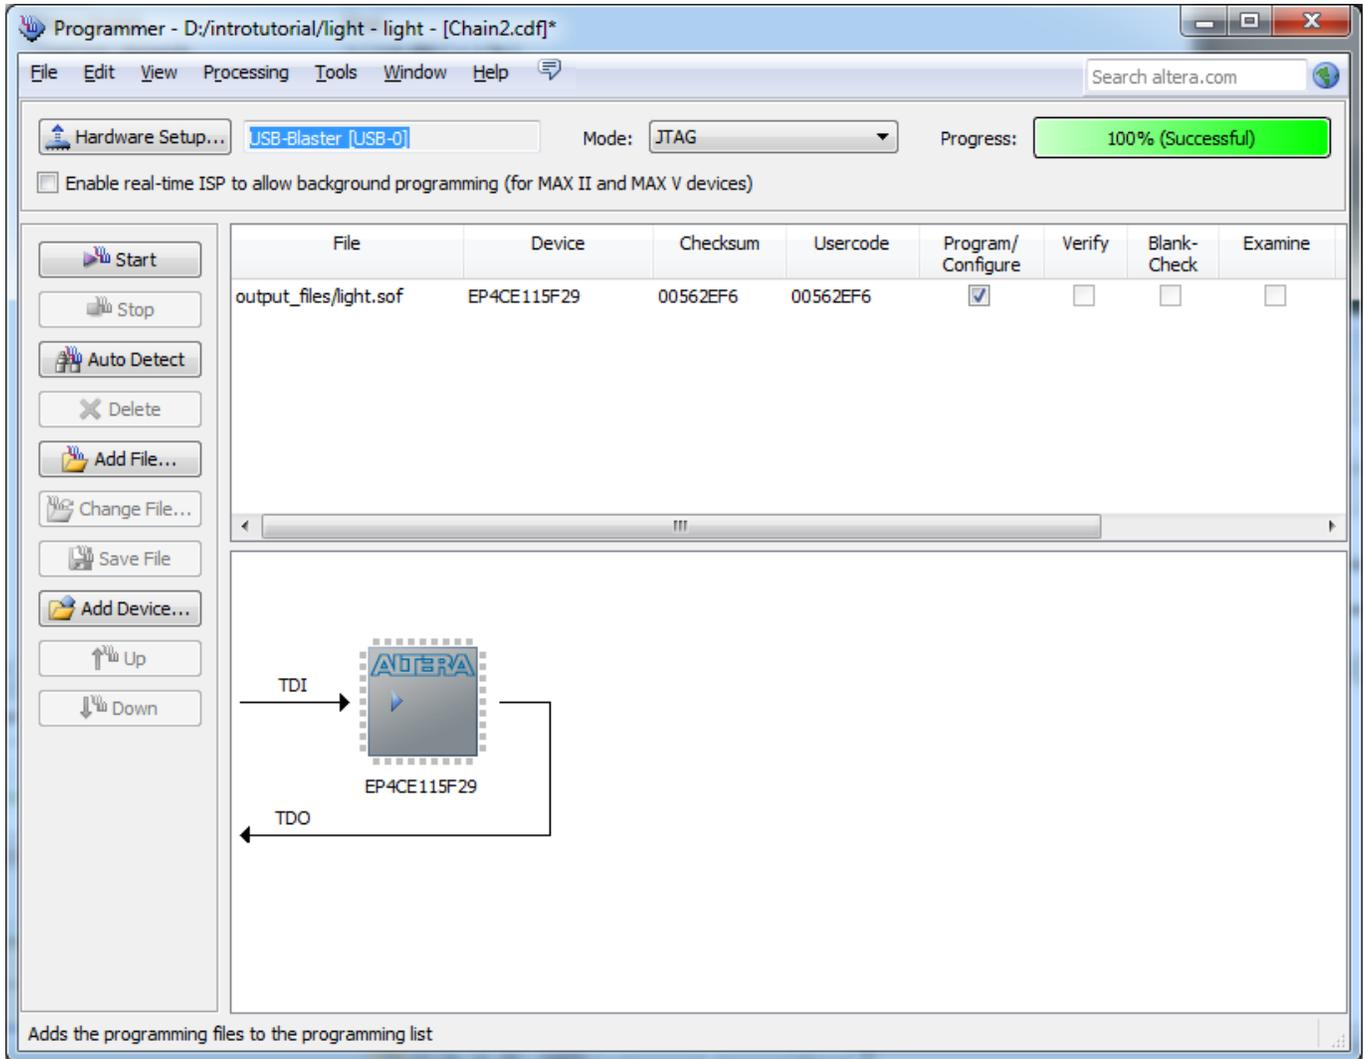

Figure 34. The updated Programmer window.
6. At this point the window settings should appear as indicated in Figure 34. Press Start to configure the FPGA. An LED on the board will light up when the configuration data has been downloaded successfully.